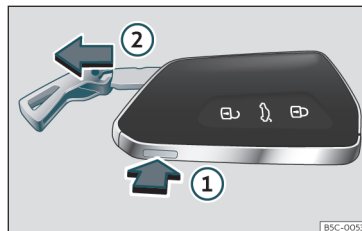

Fig. 71 Vehicle key: remove the key blade.
- If you press button >>> **Fig. 71** ① once the key blade is unlocked and a ring appears as a key ring.
- Press and hold the button ① and at the same time pull on the ring in the direction of arrow >>> **Fig. 71** ② to completely remove the key blade.